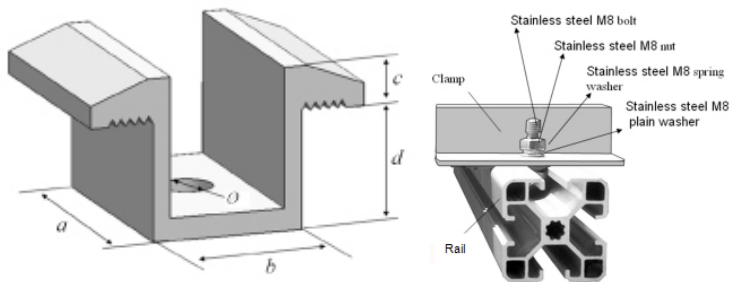
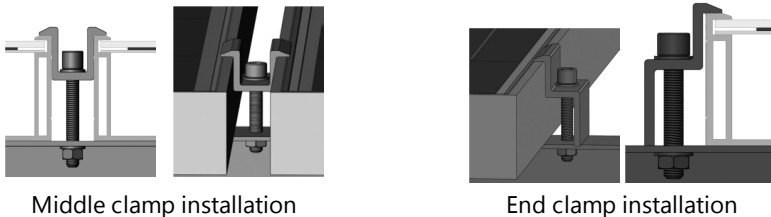

Figure 3: Middle clamps (left) and side clamps (right)
Figure 4: End clamp and middle clamp installation
The dimensions for the middle clamps are: $a \geq 40$ mm, $b \geq 26$ mm, $c = 8$ mm, $d \geq 28$ mm, and $\varnothing = 9$ mm. See *Figure 3*
4. Close-ups of the middle clamps and the side clamps are indicated in *Figure 3* and *Figure 4* respectively.